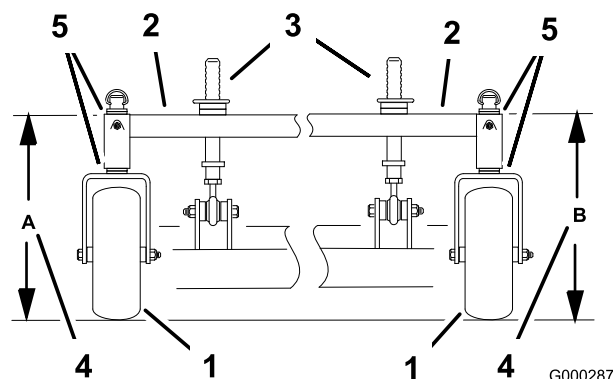

Figure 59
- Measure carrier frame height at location **A** (Figure 59).
- Measure carrier frame height at location **B** (Figure 59).